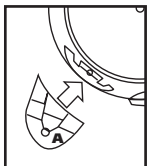

FIGURE 6
4. With tank drain facing you, take caster foot marked with the letter **A** and place into slot on left side of tank, also marked with the letter **A**. **FIGURE 6.**